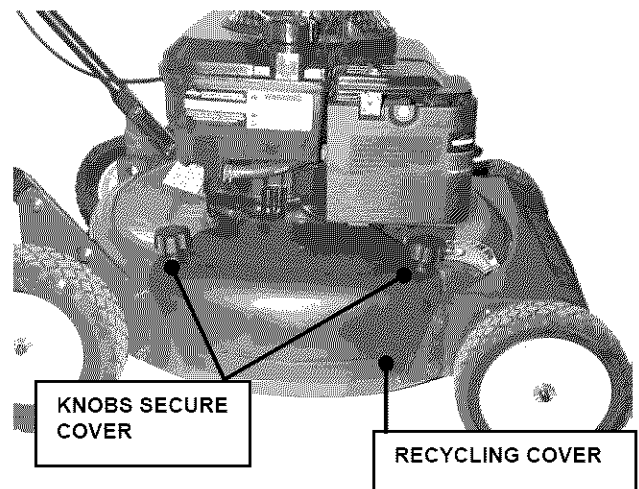

FIGURE 2.7
**1. REMOVAL:** The recycling cover is secured in place with two knobs. To remove the cover, unscrew the two knobs and lift off the cover. See Figure 2.7.